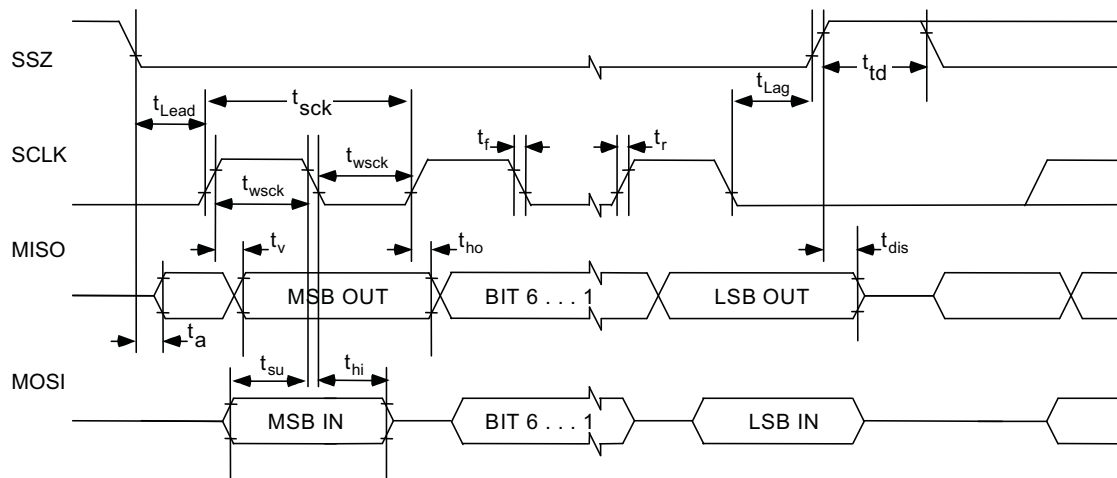

Figure 3-6. SPI Interface Timing Diagram
3.4.5.1 TIMING REQUIREMENTS (SEE Figure 3-6)